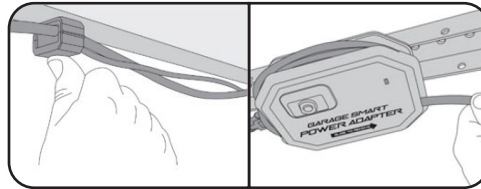

fig 4.5
9. You can also organize cables by winding the excess cable around the power adapter housing. (fig 4.5)